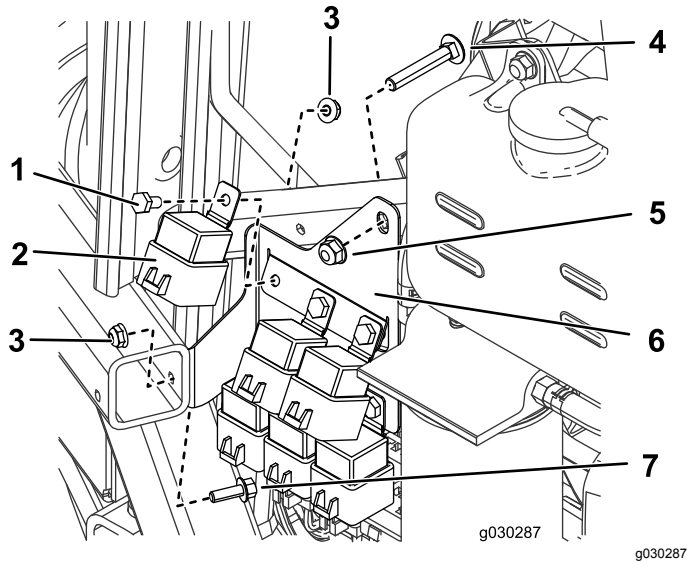

Figure 21
- On the right side of the machine, mount 6 relays onto the relay bracket using 6 bolts (1/4 x 1/2 inch) and 6 nuts (1/4 inch) as shown in Figure 21.
- Using a bolt (1/4 x 3/4 inch), nut (1/4 inch), and the bolt and nut that you just removed, mount the relay bracket to the machine (Figure 21).